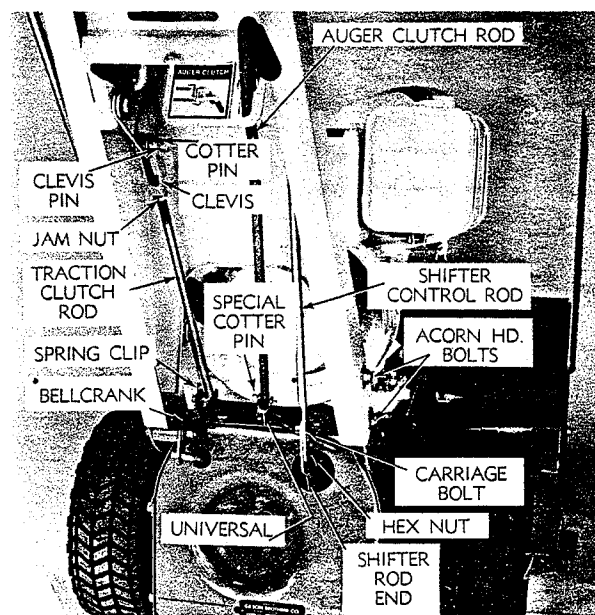

FIG. 1
1. Attach handle bar assembly to frame and secure with four acorn head bolts, flatwashers, lockwashers, and hex nuts. (Fig. 1). Flatwasher goes under acorn head bolts. Be sure handle bars are in up position when tightened.
8. Attach the auger clutch rod by sliding the rod through the key hole slot on the backside of the handle assembly and fastening the rod to the universal with a special stainless cotter pin (Fig. 1) (Red or blue).
This lever is located in the key hole slot on the underside of the handle assembly. (Fig. 1). The lever is used to engage and disengage the impeller and auger. To engage, pull lever up, slide it away from you and allow it to go down within the larger hole in bracket (Fig. 1). ("IN" position). To disengage lift lever up and slide it towards you into slot. Collar on lever will hold in disengaged ("OUT") position. This lever must be in the "OUT" position before starting the engine.